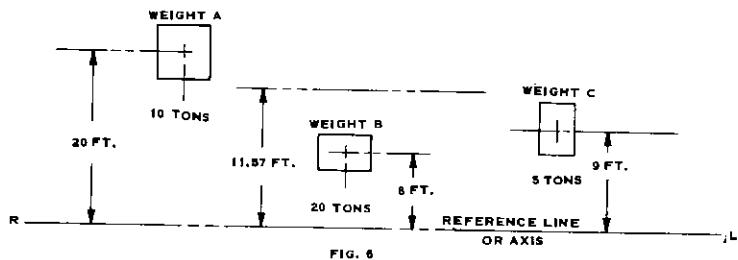

FIG. 6
1. Example #1. As a clarification of moment and the center of gravity (CG), Fig. 6 shows several weights and their relation to a reference line or axis. It is required that the moment and CG of this group of weights be determined relative to the reference line.